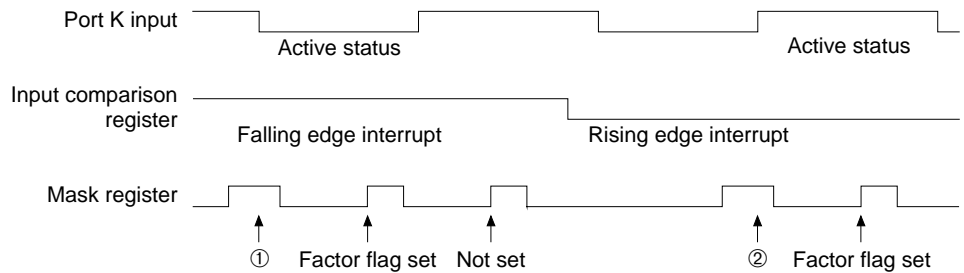

Fig. 5.2.1
When an interrupt is triggered at the falling edge of an input terminal, a factor flag is set with the timing of ① shown in Figure 5.2.1.
When an interrupt is triggered at the rising edge of the input terminal, a factor flag will be set at the timing of ② shown in Figure 5.2.1. In this case, when the mask registers cleared, then set, you should set the mask register, when the input terminal is in the low status.